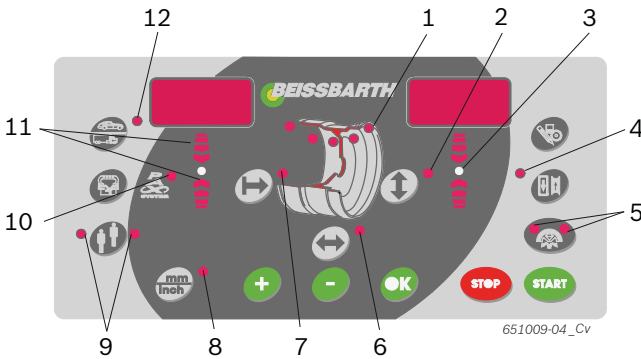

Fig. 4: LEDs on control/display panel
- ➔ The LEDs (Fig. 4, Item 1) indicate the positions of the balancing planes for each balancing program.
- i** If a PAX balancing program has been selected, the pax LED also lights (Fig. 4, Item 10).
2. Select the rim distance determined by way of the <-> or <+> rim distance key (Fig. 4, Item 7).
4. Select the measured rim width using the <-> or <+> button for rim width (Fig. 4, Item 6).
6. Select the rim diameter determined by way of the <-> or <+> rim diameter key (Fig. 4, Item 2).
- ⇒ Both LEDs of the **<SPLIT>** key (Fig. 4, Item 5) light.